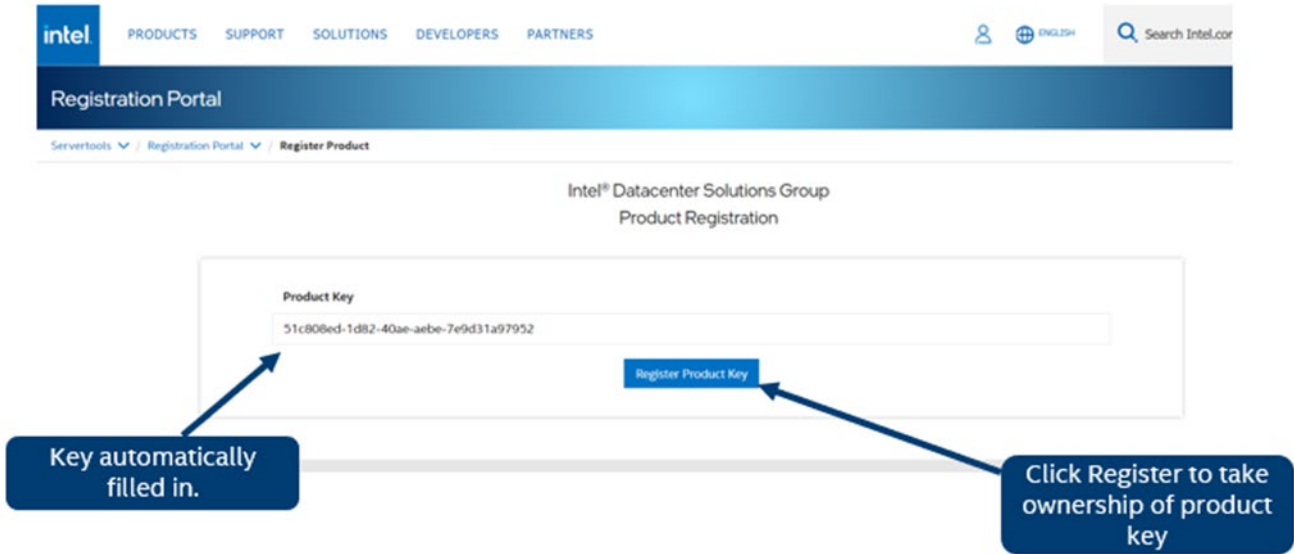

Figure 72. Register Key
- On the Registration Screen, Click the “Register Product Key” button to register the pre-entered license key number (see Figure 72)